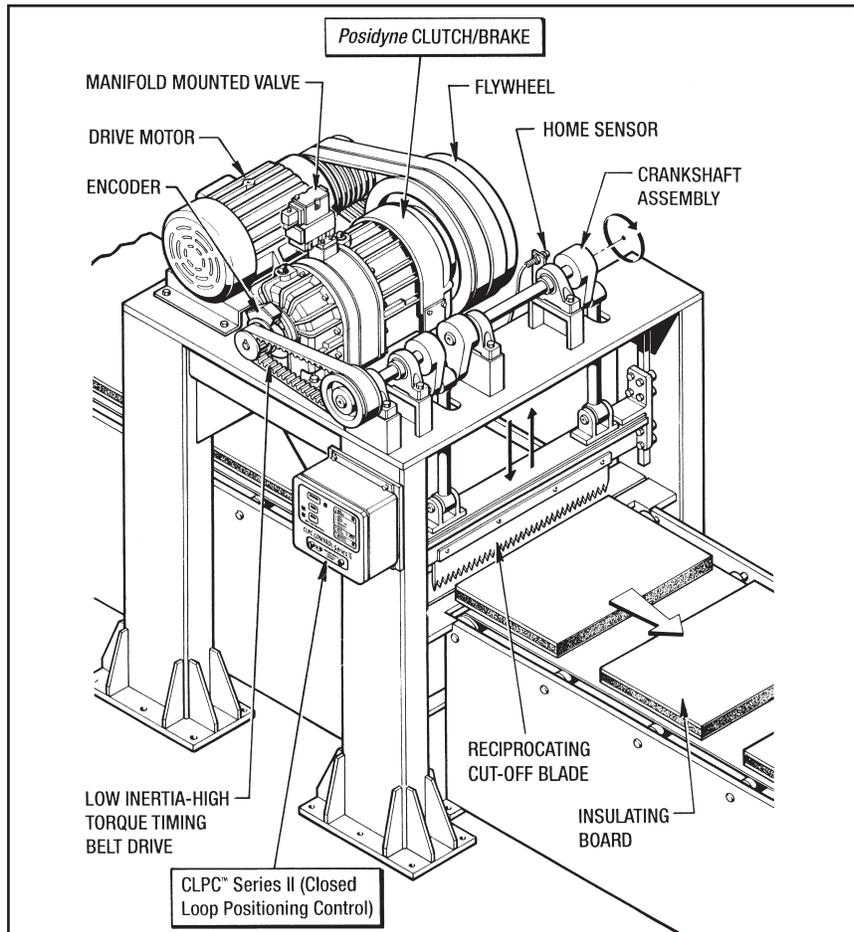

Figure 1.1 - Typical Single Revolution Application
A. Single Revolution - A single revolution cut-off drive for a guillotine cutter, fly cutter, etc. (See Figure 1.1)